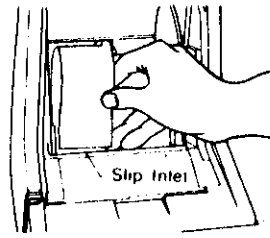

Fig. 2
- 3) Fold the paper end at a right-angle and thread it through the receipt paper inlet (see Fig. 2).